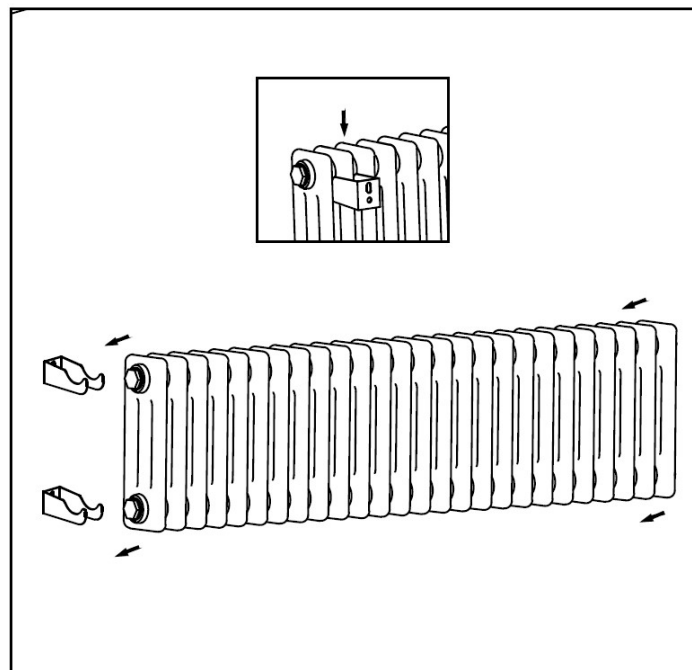

Figure 3 | Fixing the radiator Brackets
5. The radiator is now ready to mount. You may choose to add the optional security Bracket at this stage, see **Figure 3**.